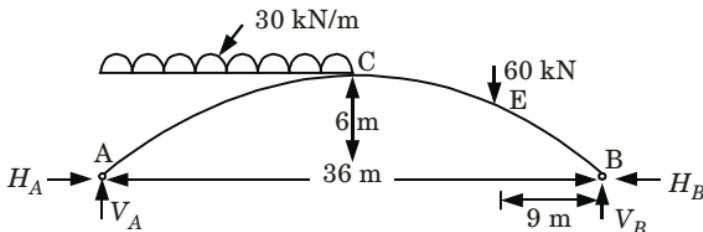

Fig. 21.
- b. A three hinged parabolic arch is shown in Fig. 21. Determine the normal thrust, radial shear and bending moment at quarter span and draw BMD.